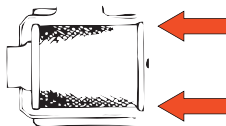

Figure 7
- Insert the new filter element carefully. Seat the filter by hand, making certain it is bottomed-out in the air cleaner housing (*Figure 7*).